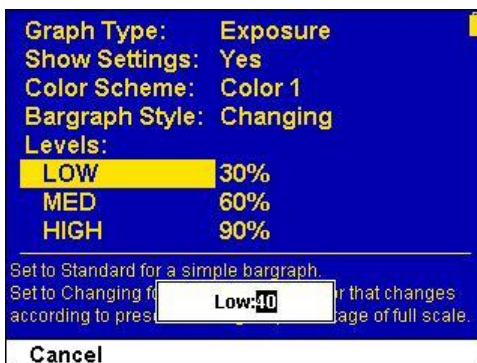

Figure 9-8 Changing Low to 40%
- Set the **Levels** as needed. Select each **LOW, MED, HIGH**, press the **Enter** key to display the relevant window in which you can change the percentage using the up/down Navigation keys. (The default levels are LOW=30%, MED=60%, High=90%.) For example, see the “Low” window in Figure 9-8 below: